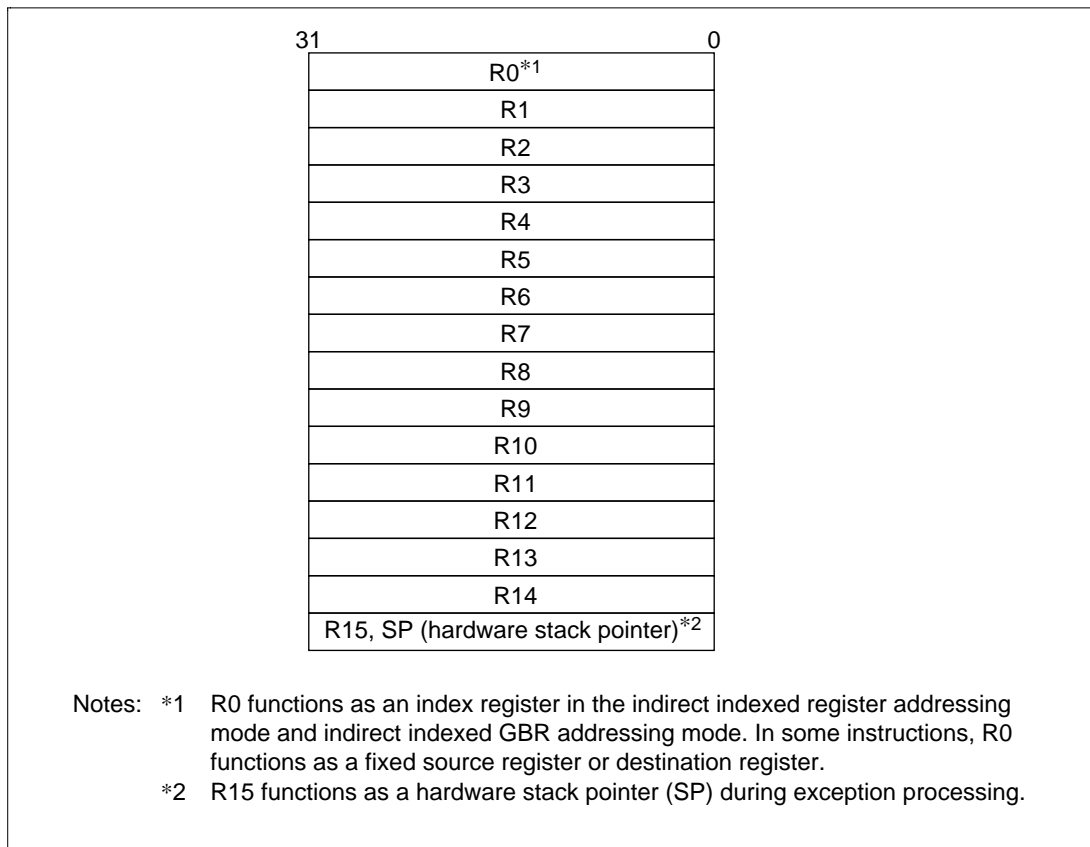

Figure 2.1 General Registers
The sixteen 32-bit general registers (Rn) are numbered R0–R15. General registers are used for data processing and address calculation. R0 is also used as an index register. Several instructions have R0 fixed as their only usable register. R15 is used as the hardware stack pointer (SP). Saving and recovering the status register (SR) and program counter (PC) in exception processing is accomplished by referencing the stack using R15. Figure 2.1 shows the general registers.